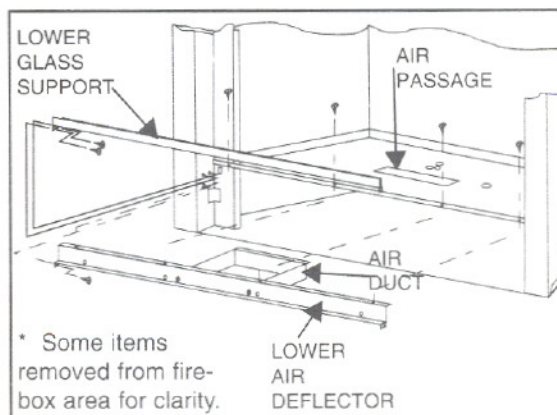

Figure 19C
3. Using a phillips screwdriver remove six (6) screws securing the Lower Air Deflector. Move the Lower air deflector out of the way. See Figure 19C.
5. From the Fan Kit, attach the Air Deflector to the Fan output using two (2) screws.